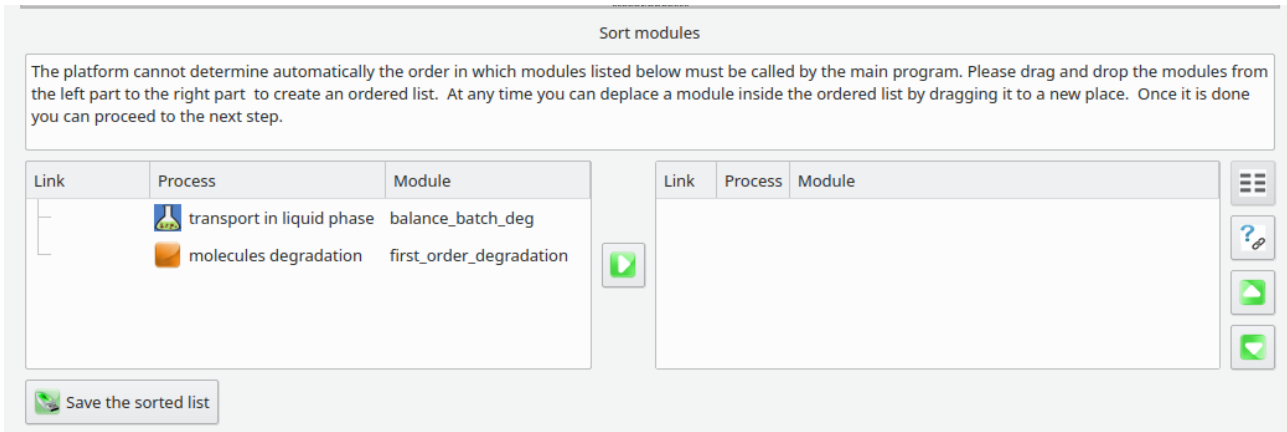

Figure 7: Unordered list of modules
- In the bottom part of *Ordering* tab (*Sort modules* panel), drag and drop the modules from the left part to the right part of the panel (or use the  button) to create the desired ordered list (see figures 7 and 8):
- In *Sort modules* part of *Ordering* tab in *vsOil-models* application (see figures 7 and 8), it is possible that you cannot move a module in a desired position because the platform detects automatically overlapping iterations loops and forbids them (see the forbidden execution flow in previous item).